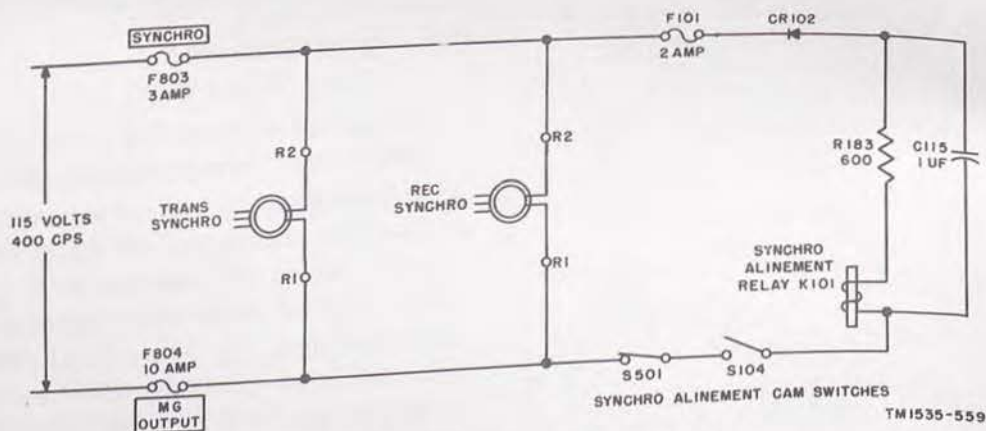

Figure 80. Power for synchronizing circuits.
a. *Synchronizing Circuits* (fig. 80). The 115-volt, 400-cps power is applied through SYNCHRO fuse F803 and MG OUTPUT fuse F804 on the convenience panel of the receiver-transmitter to the rotors of transmitter synchro B501 in the antenna and receiver synchro B101 in the indicator. After passing through fuse F101, the ac is rectified by crystal rectifier CR102 to obtain dc for the operation of synchro alinement relay K101. Synchro alinement cam switches S501 and S104 are in series with relay K101.